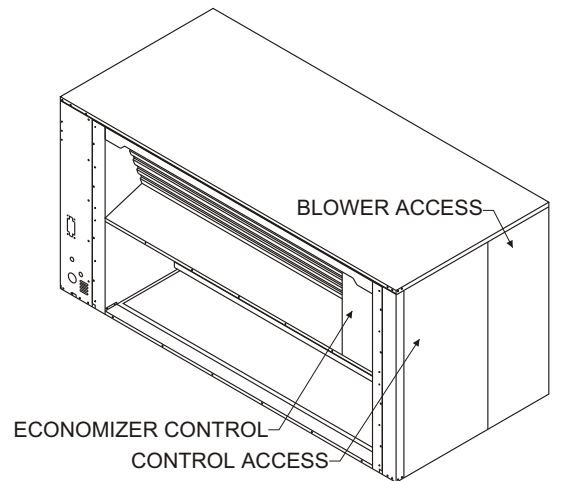

Figure 4
This economizer assembly slides into the horizontal return air opening for both down shot and horizontal applications. Horizontal application requires a special roof curb, Nordyne P/N- 559542 or 559543, for proper supply air duct connections. Fresh Air Intake and Barometric Relief hoods are packaged separately and should be assembled and installed per these instructions. Mixed air sensor is shipped with the economizer and must be relocated to blower outlet. (See Figure 4)
5. Take the economizer assembly and slide into the opening. Damper must slide over bottom return duct opening as shown in Figure 4.